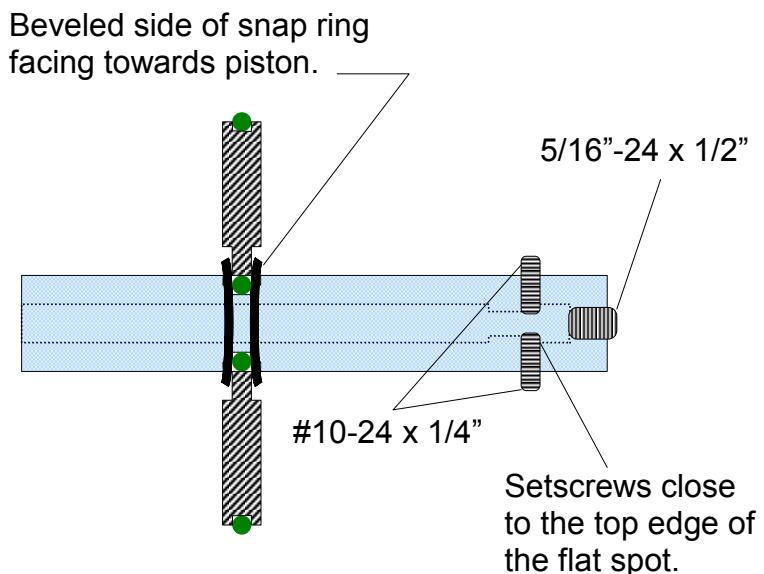

Figure 3
5. Fasten the piston in position with two new snap rings. The snap rings have a bevel on one side due to the way they were manufactured. Make sure the beveled side is facing the piston. See Figure 3.
16. Attach valve stem (3-6362) to air cylinder shaft using two 10-24 and one 5/16"-24 setscrews with Loctite on the threads. The setscrews should be to the top edge of the flat spot. See Figure 3.